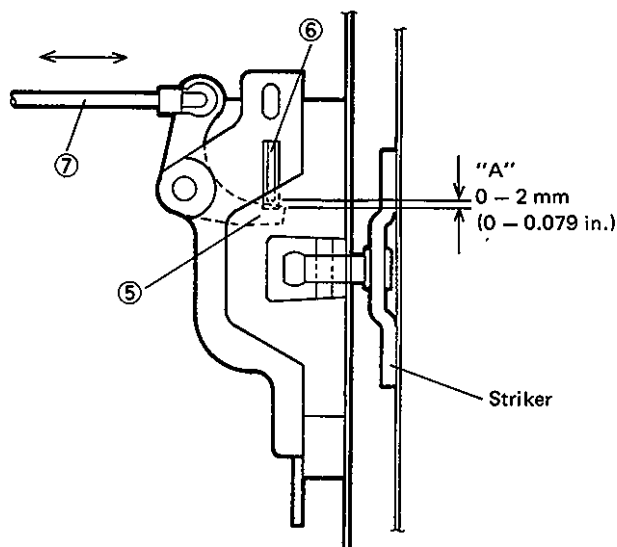

Fig. 20-19
Fit the inside handle, adjusting the clearance between inside open lever ⑤ and outside open lever ⑥ of the door lock to 0 – 2 mm (0 – 0.079 in) by moving the inside handle remote control rod ⑦ in the arrow direction given in Fig. 20-19.